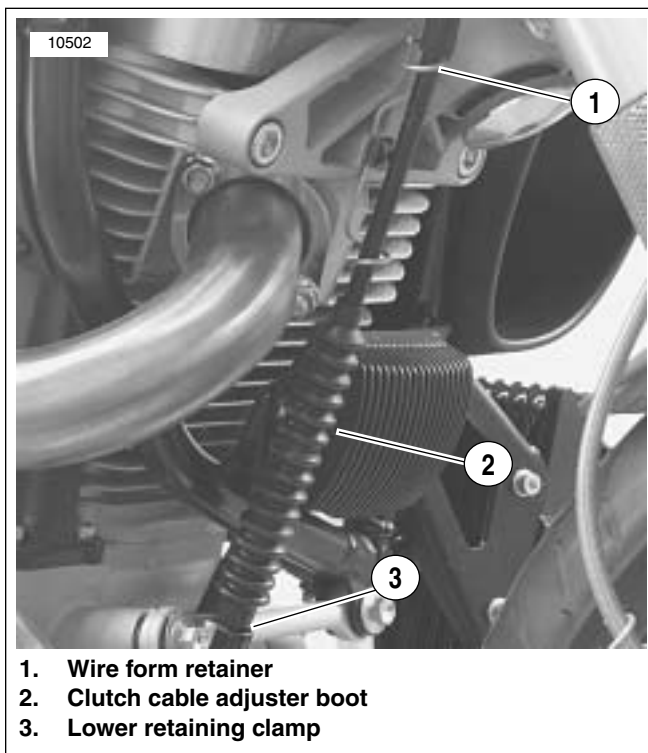

Figure 3-20. Clutch Cable Retaining Clamps and Adjuster Boot
27. See Figure 3-20. Disconnect clutch cable from handle-bars.
- b. Slide clutch cable adjuster boot (2) up to access clutch adjuster.